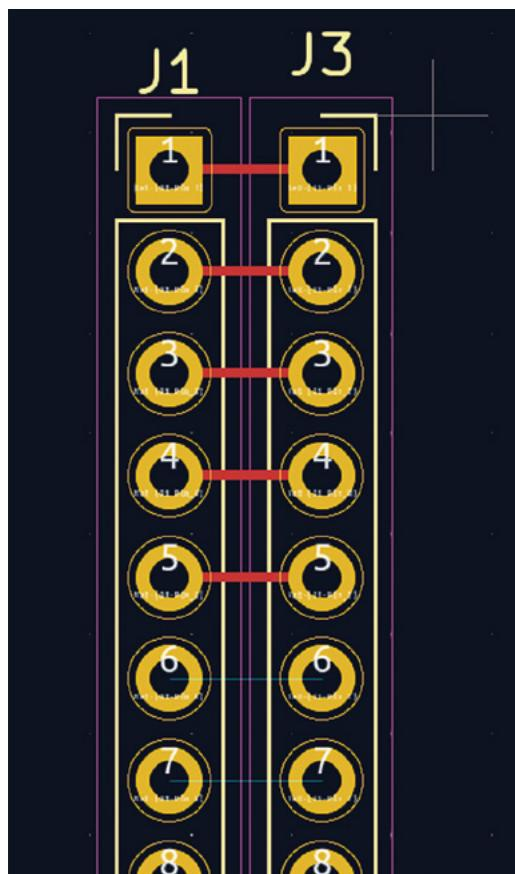

Figure 6 Drawing a rectangle that defines the cut edge of the PCB board
the grid to a more useful spacing. Select the 1 mm grid spacing, then left-click the rectangle tool. Left-click anywhere in the PCB Editor page and drag a rectangle (**Figure 6**). The rectangle should be snapping to the grid – we can drag it out until the labels tell us we are drawing a 21 mm width by 51 mm height rectangle. Left-click one more time to create the rectangle. Moving back to the Select Items (S) tool, we can now select the rectangle and press the **M** key to move it into position. Notice